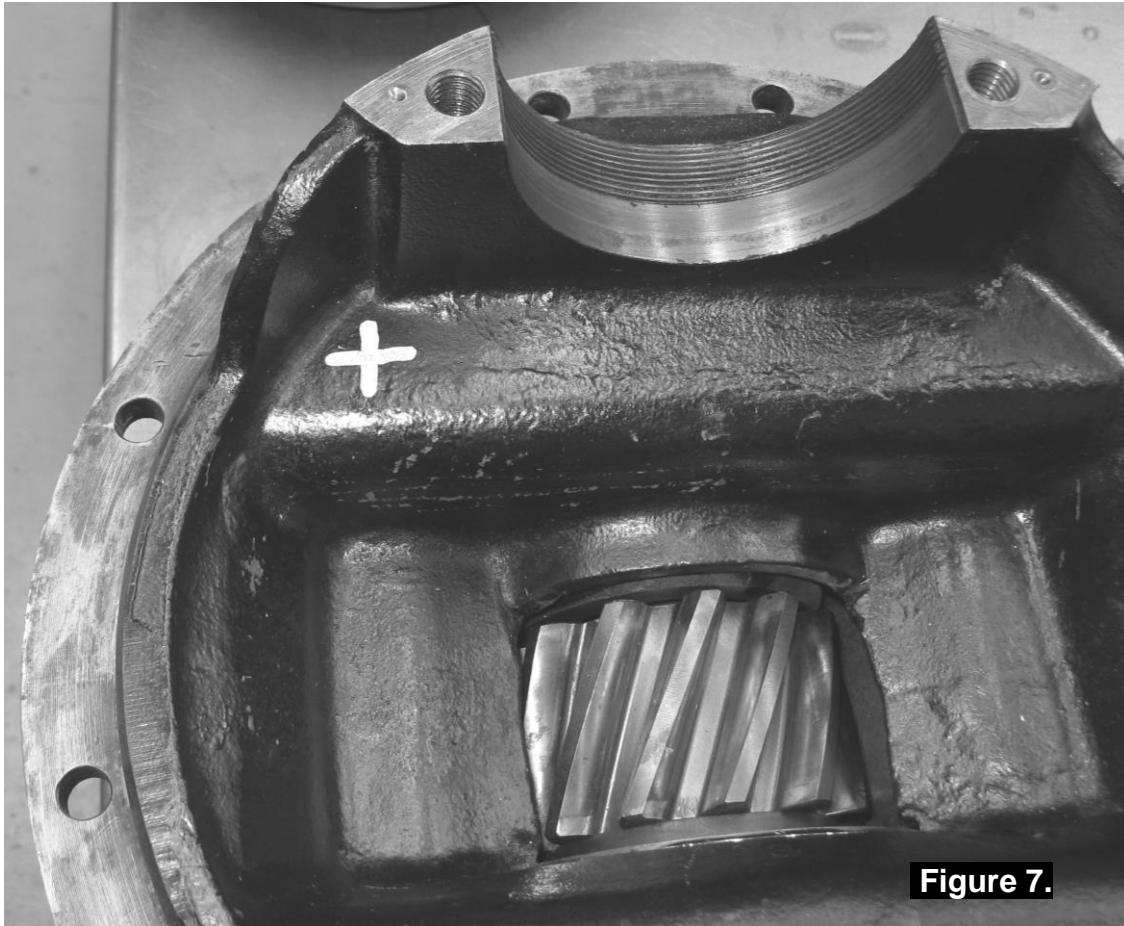

Figure 7.
- Mark a spot on the axle housing casting in the position shown in Figure 7.